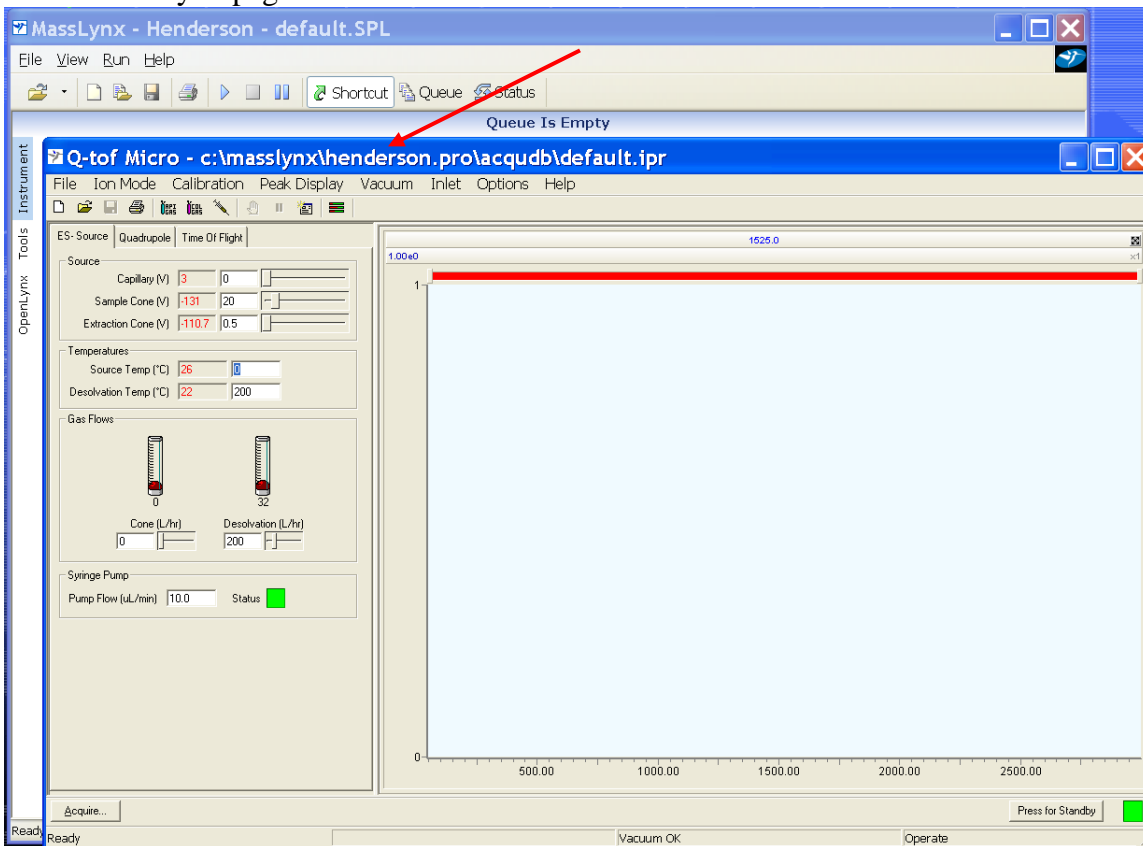

Figure 4
4. Make sure that your ESI file is now open from the Tune Page. This is done by checking that your name is in the top file name bar (red arrow, Figure 4). If your name is NOT there, close the Tune page and reopen it from the previous Masslynx page.